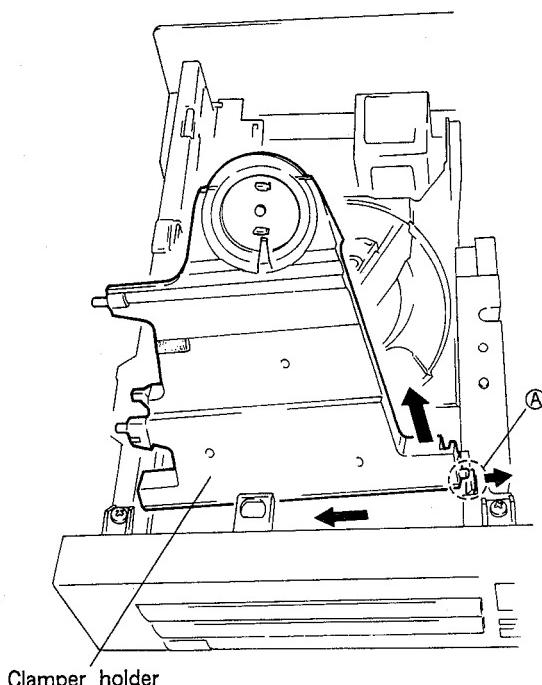

Fig. 2-1
- Stand the clamper holder up and push the claw at **A** section in Fig. 2-1 in the direction of arrow to remove the clamper holder.